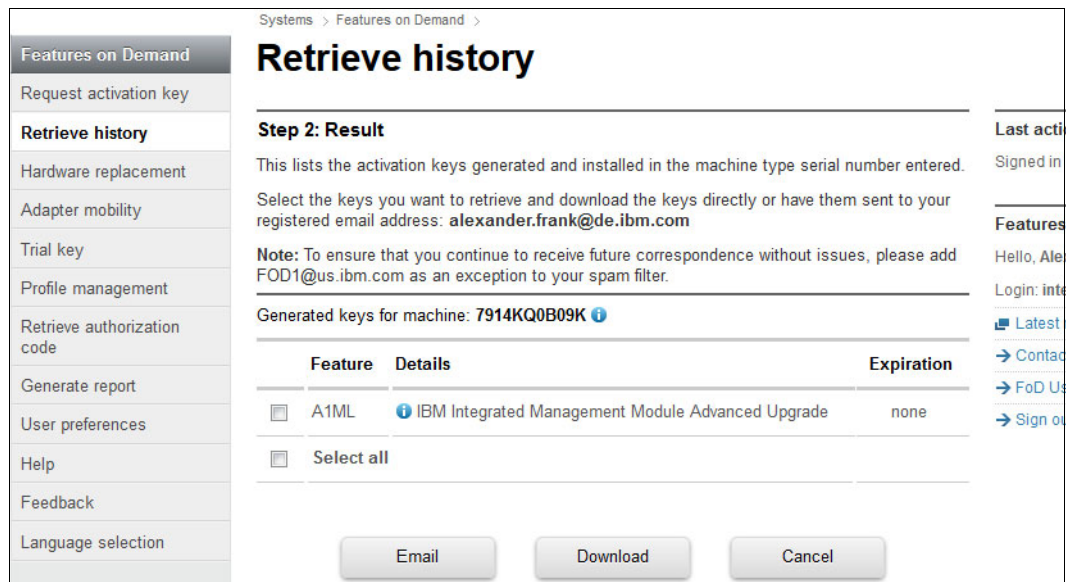

Figure 2-46 Example result for retrieving history via machine type serial number
As shown in Figure 2-46, the results that are displayed provide the following information:
2. In the Retrieve History results page (as shown in Figure 2-46 on page 44), select the device for which you want to retrieve the key. To send the key information to the email address of the user who is logged in, click **Email**. To download the activation key directly to your computer, click **Download**.